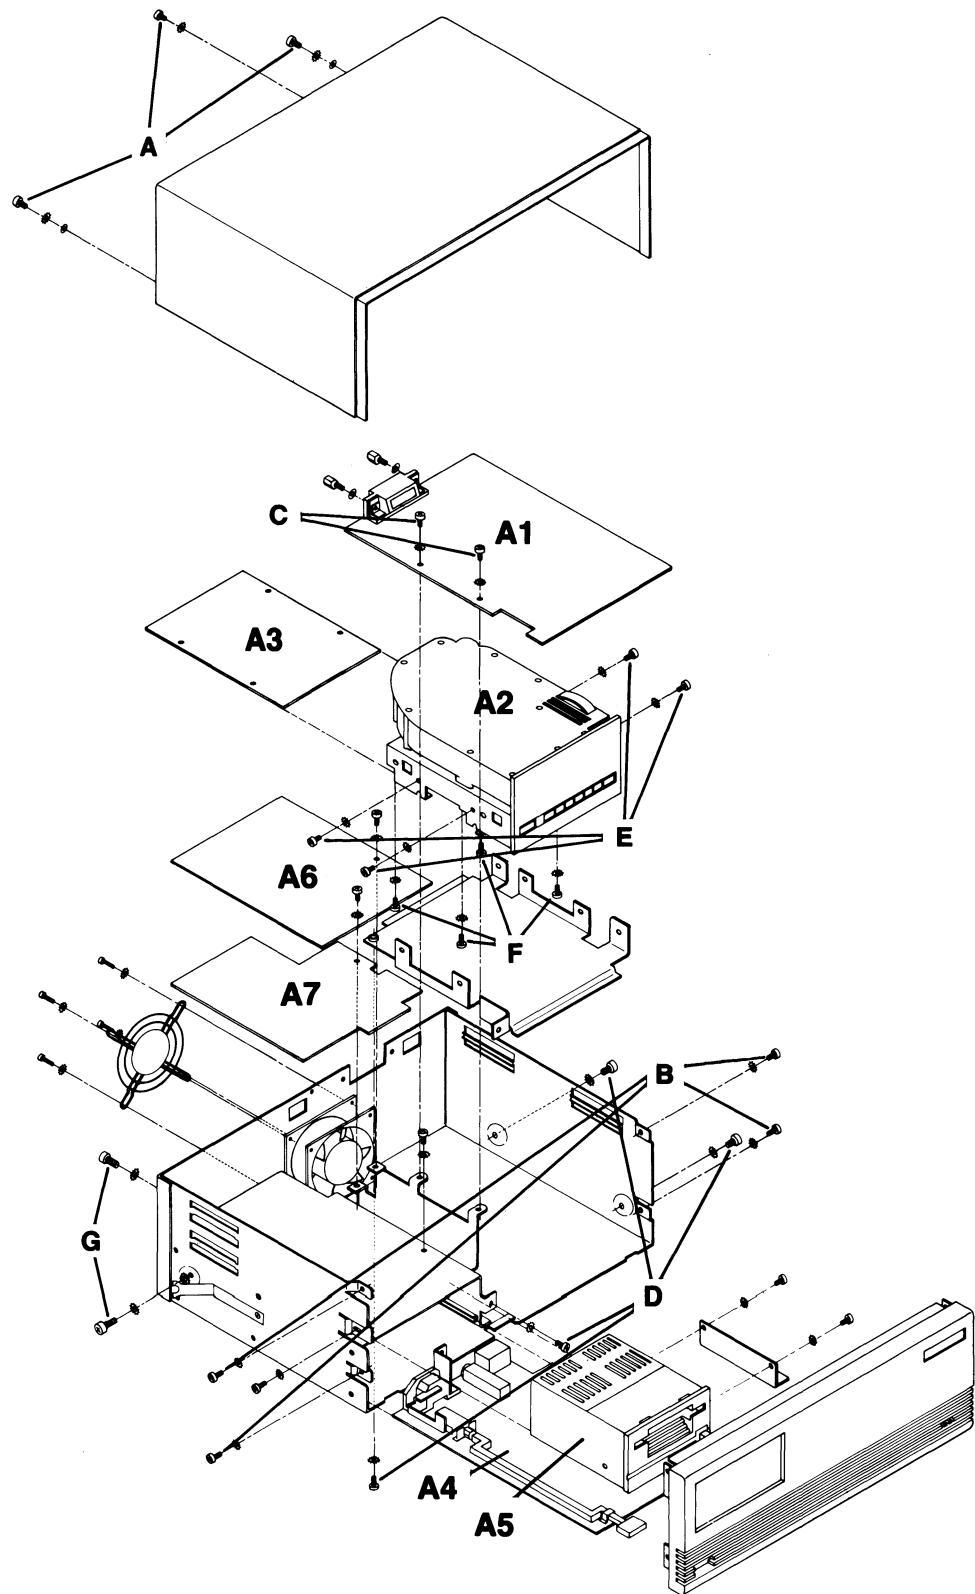

Figure 2-1. The 9133V/XV Exploded View
The Top Cover Assembly consists of an injection molded plastic shroud and a steel shield shroud. To remove the assembly, remove three screws on the rear of the disc memory (marked "A" in Figure 2-1.)
2. Remove two mounting screws (labelled "C" in Figure 2-1) from the left side of the board.
1. Remove four mounting screws marked "D" on Figure 2-1. Two screws are located on the lower right side of the chassis, an other on the front mounting tab, and the fourth from the bottom.
3. Turn the Drive Assembly upside down. Remove four screws (marked "E" in Figure 2-1) from the sides of the assembly; lift off the mounting bracket.
3. Remove four screws labelled "F" in Figure 2-1. Carefully slide the board to the rear of the box frame and clear of the Drive Assembly. See Figure 2-7.
1. Remove two screws marked "G" in Figure 2-1. One is on the left side of the chassis, and the other is on the rear of the chassis.